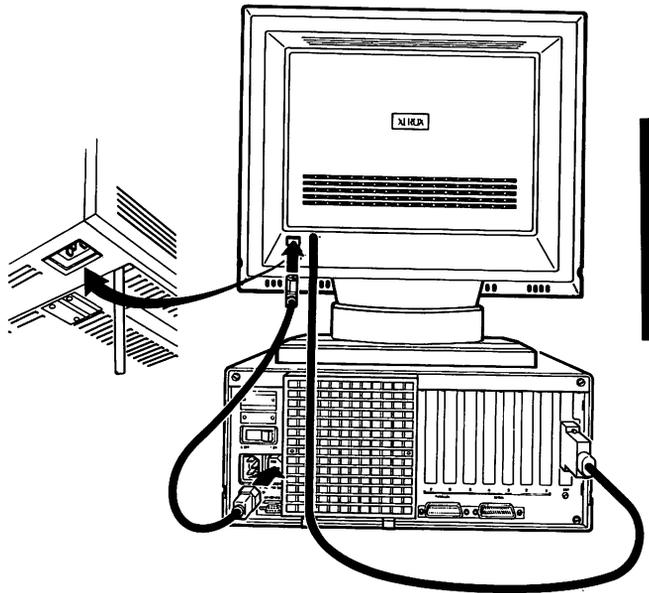

*Figure 1-14. Connecting the color display power cord.*
- Insert the female plug into the power socket on the back of the display unit, and the male (pronged) plug into the power socket on the rear of the processor (Fig. 1-14).